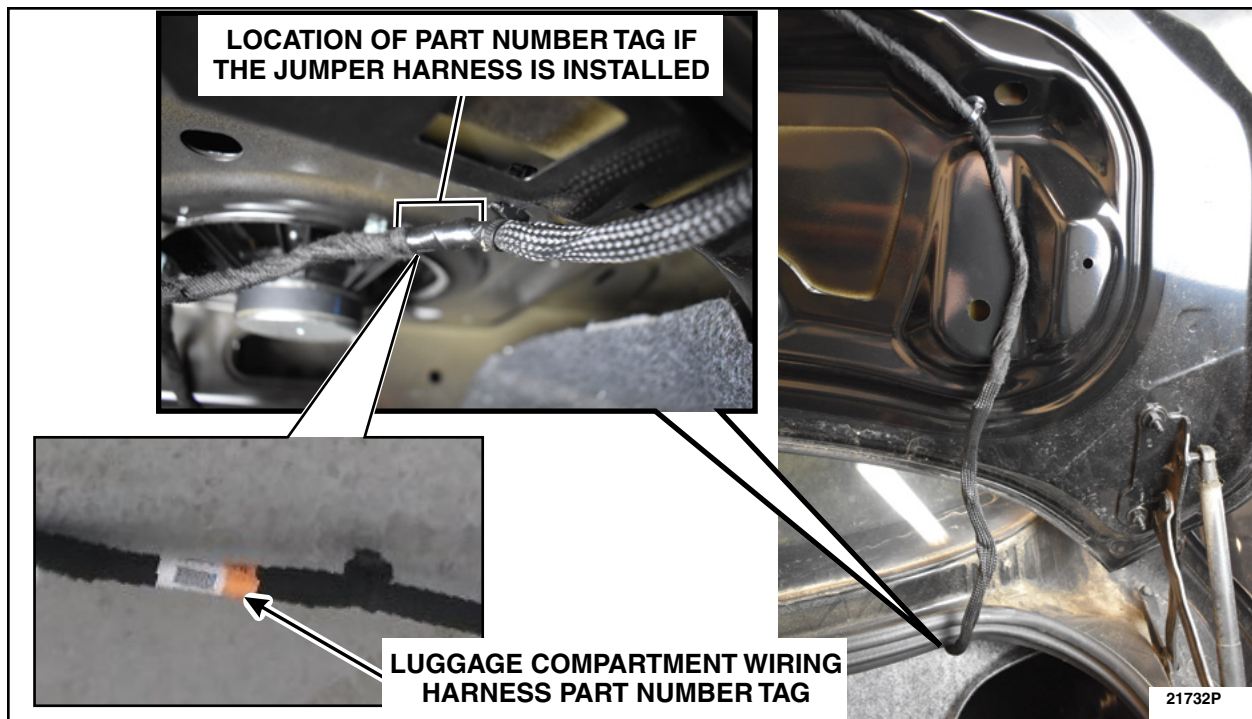

FIGURE 1
2. Inspect the luggage compartment wiring harness, after the first wire harness push pin retainer, within the luggage compartment for a part number tag. See Figure 1.